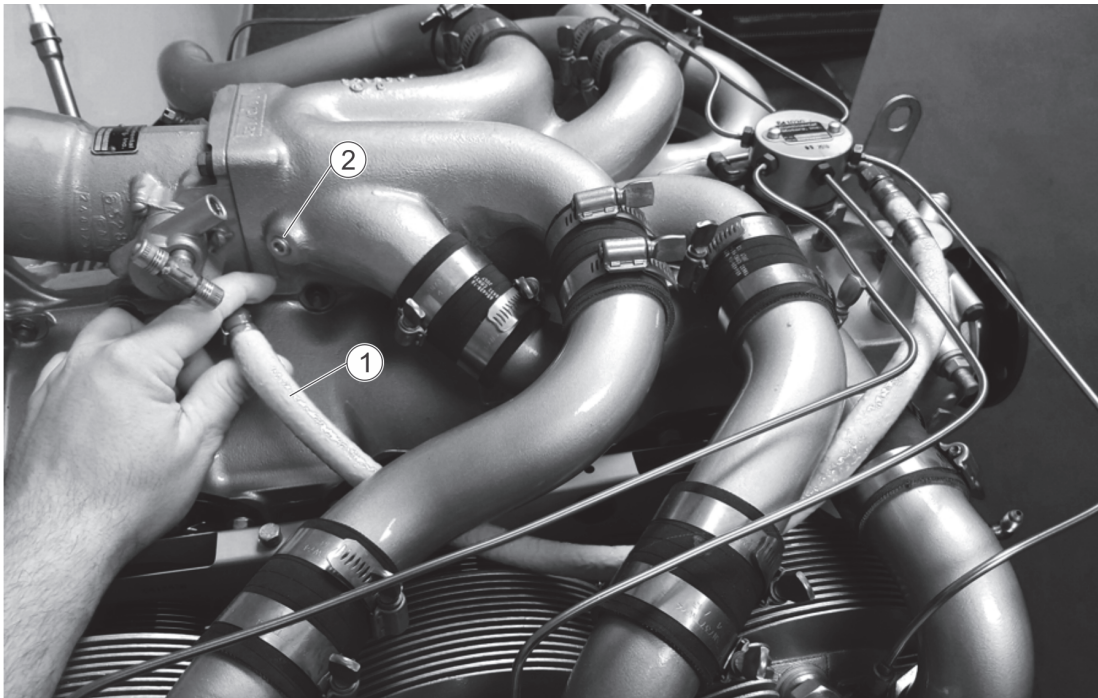
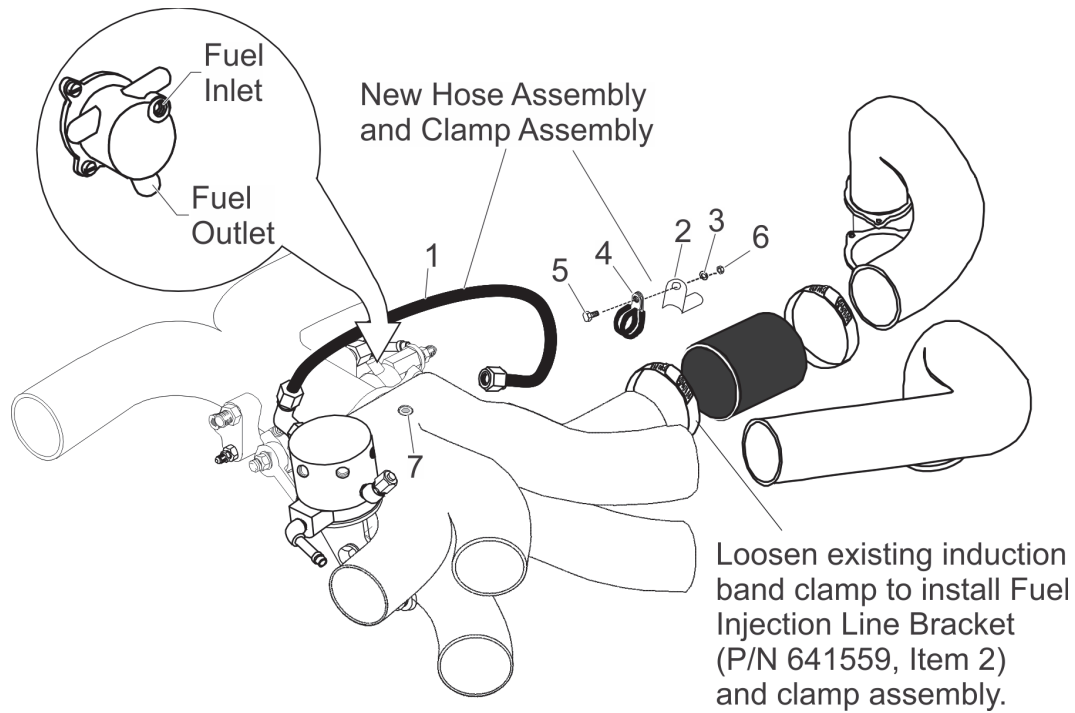

Figure 7. Hose Installation, IO-360-ES; TSIO-360-MB, SB
Figure 10. Hose and Clamp Assembly, TSIO-520-BE; TSIO-550-A, B, C6B, E
1. Install new hose/tube assembly (reference Table 2 through Table 5 and Figure 7 through Figure 10) between throttle body (mixture control outlet) and fuel manifold valve inlet fitting.
(reference Figure 7)
5. Reference Figure 10, to assemble the hose assembly (P/N 646644S6S23.00) and clamp assembly (fuel injection line bracket (item 2) for the TSIO-550-C6B engine. Loosen the induction clamp at the induction joint and insert bracket (item 2) under the induction clamp.
(reference Figure 10)